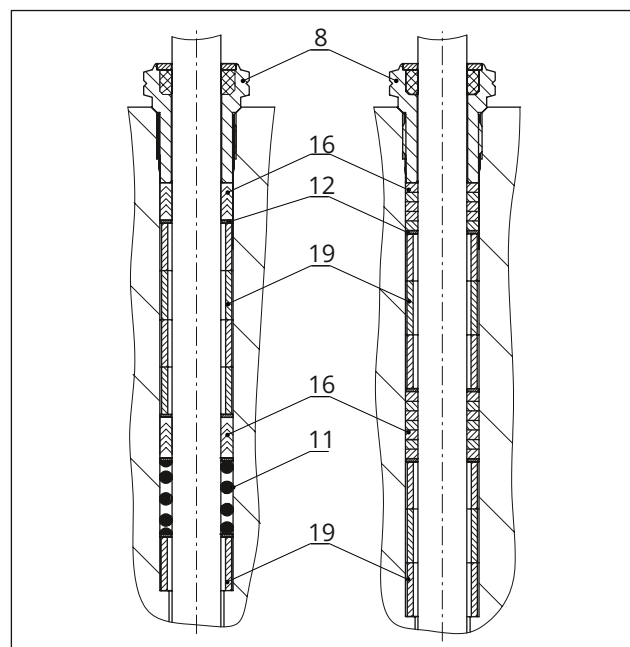

Fig. 16: Packing: Standard (left) · High-temperature (right)
14. Carefully slide the packing parts over the plug stem into the packing chamber using a suitable tool. Observe the proper sequence (see Fig. 16).
15. Insert the bolts (13) through the threaded flanges (57, 111) and tighten them. Observe tightening torques.
16. Tighten the body nuts (14) gradually in a criss-cross pattern. Observe tightening torques.
17. Screw in the threaded bushing (8) and tighten it. Observe tightening torques.
18. Place yoke (3) on the intermediate piece (2) and fasten using the castellated nut (92).
19. Loosely screw the lock nut (10) and stem connector nut (9) onto the plug stem.
18. Place yoke (3) onto the insulating section (21) and fasten using the castellated nut (92).